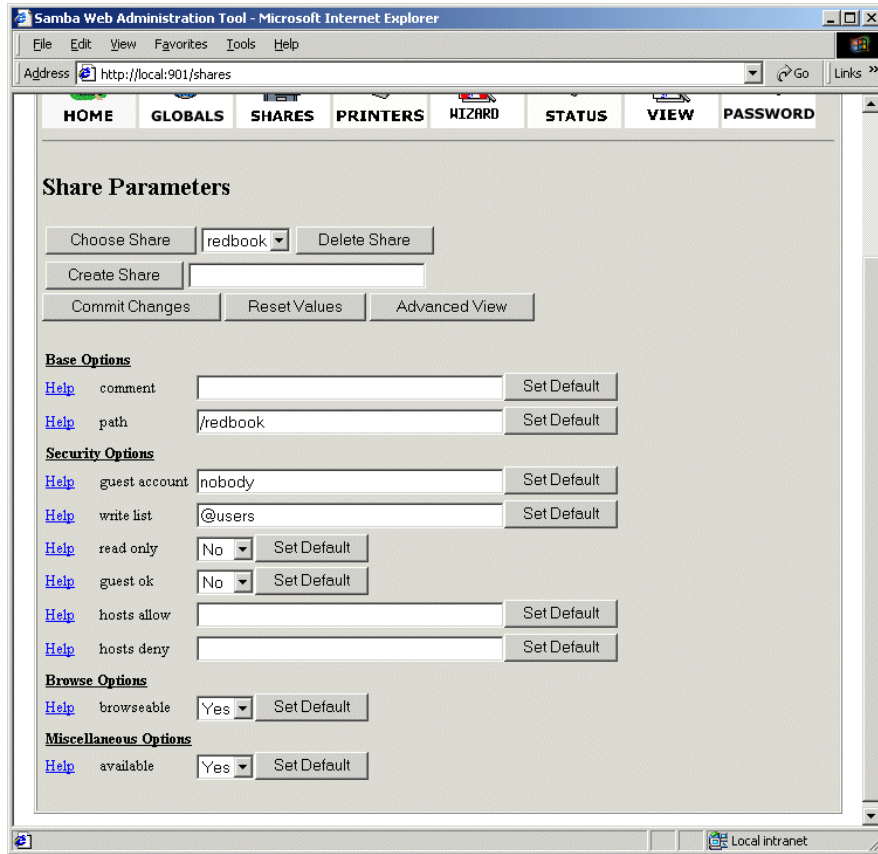

Figure 4-7 Modifying share options
2. Click **Choose Share**. The options will be displayed on a page similar to Figure 4-7, which shows the basic options.